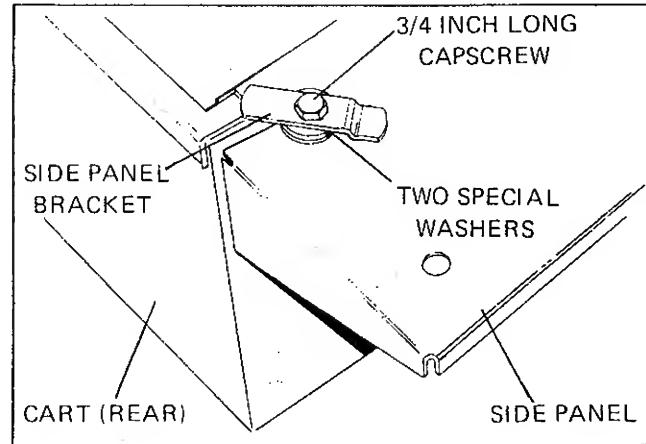

FIGURE 19
- Secure bracket to inside rear of side panel with two special washers (above side panel), a flat washer (underside panel), a 3/4 inch long capscrew, and locknut (Figure 19). Position side panel bracket at angle illustrated. Repeat procedure for remaining rear corner.